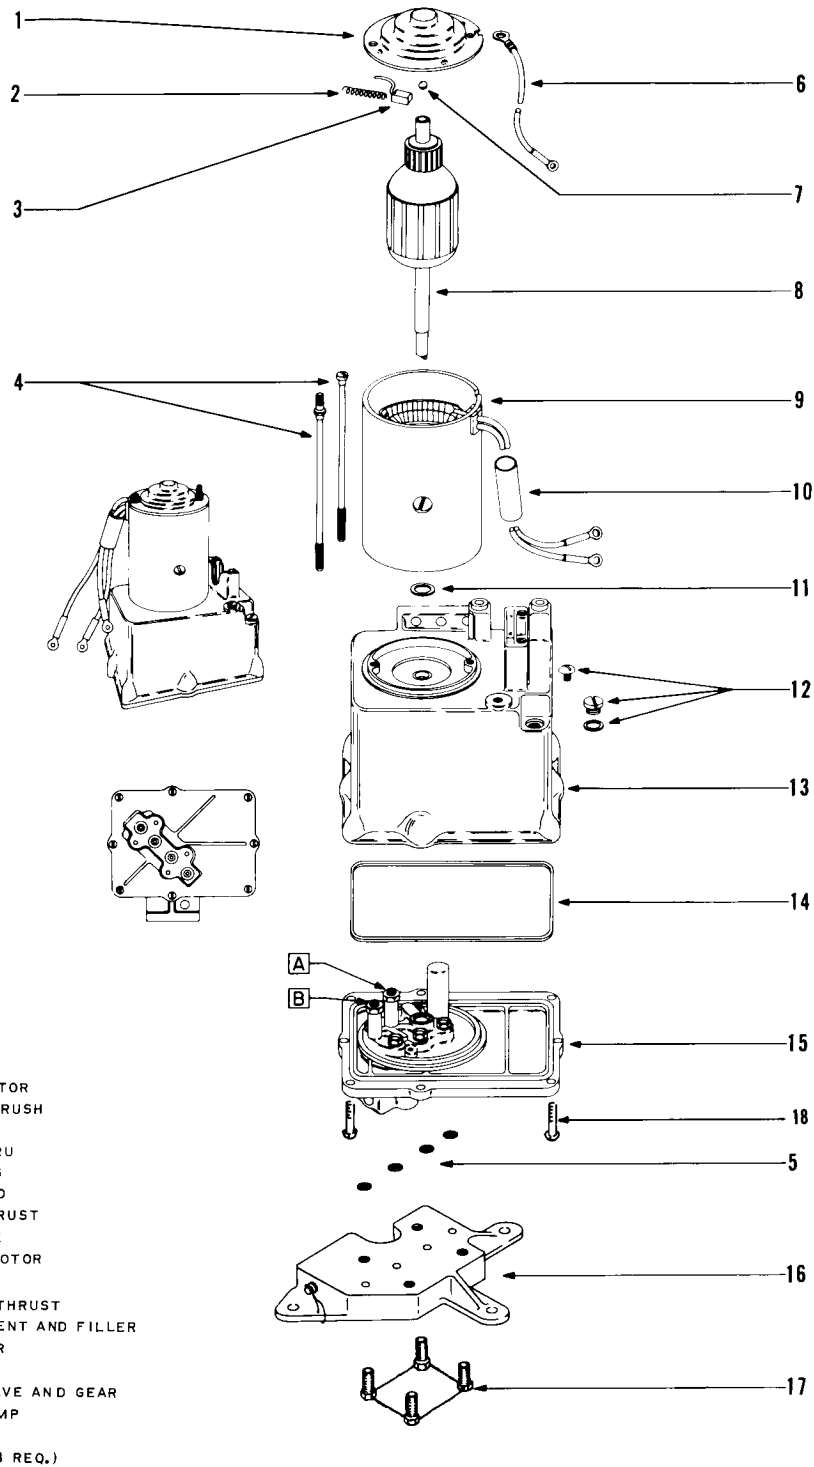

Figure 29-5. Hydraulic Pump/Reservoir, Exploded View
DISASSEMBLY OF HYDRAULIC PUMP. (Refer to Figure 29-5.)
ASSEMBLY OF HYDRAULIC PUMP. (Refer to Figure 29-5.)
- E. Connect the blue lead to the positive terminal of the power supply. Pump should operate and the high pressure gauge should indicate between 1600 to 2000 psi. (2000 to 2500 psi on Piper P/N 67509-2.) Should the pressure be incorrect, adjust valve "A," Figure 29-5, in pump reservoir.
- G. Connect the green lead to the positive terminal of the power supply. Pump should operate in reverse, dropping the high pressure gauge to zero and the low pressure gauge should indicate between 500 to 800 psi. When the green lead is disconnected, both pressure gauges should indicate zero psi. (Should the pressure of 500 to 800 psi be incorrect, adjust valve "B," Figure 29-5, in pump reservoir.)
2. Position the pump on its mounting flange. Install mounting bolt with washer and tighten. (Refer to Figure 29-5.)